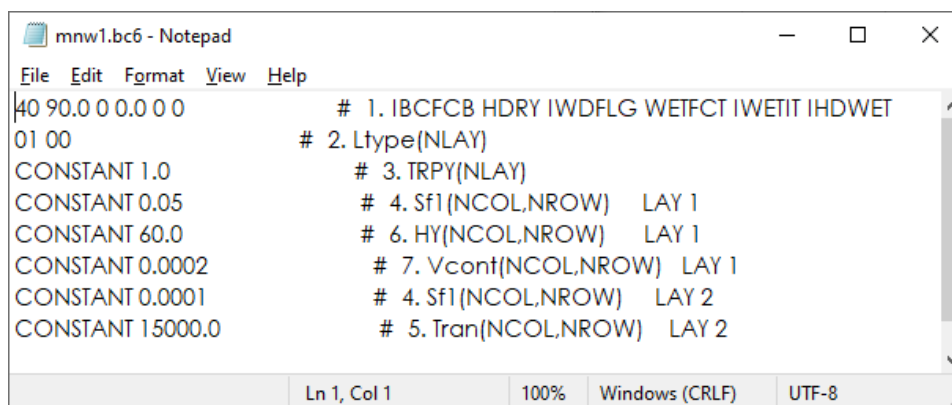

Figure 8 MODFLOW BCF file saved in native text format From GMS
- Using a text editor, open the “mnw1.bc6” file (Figure 8).